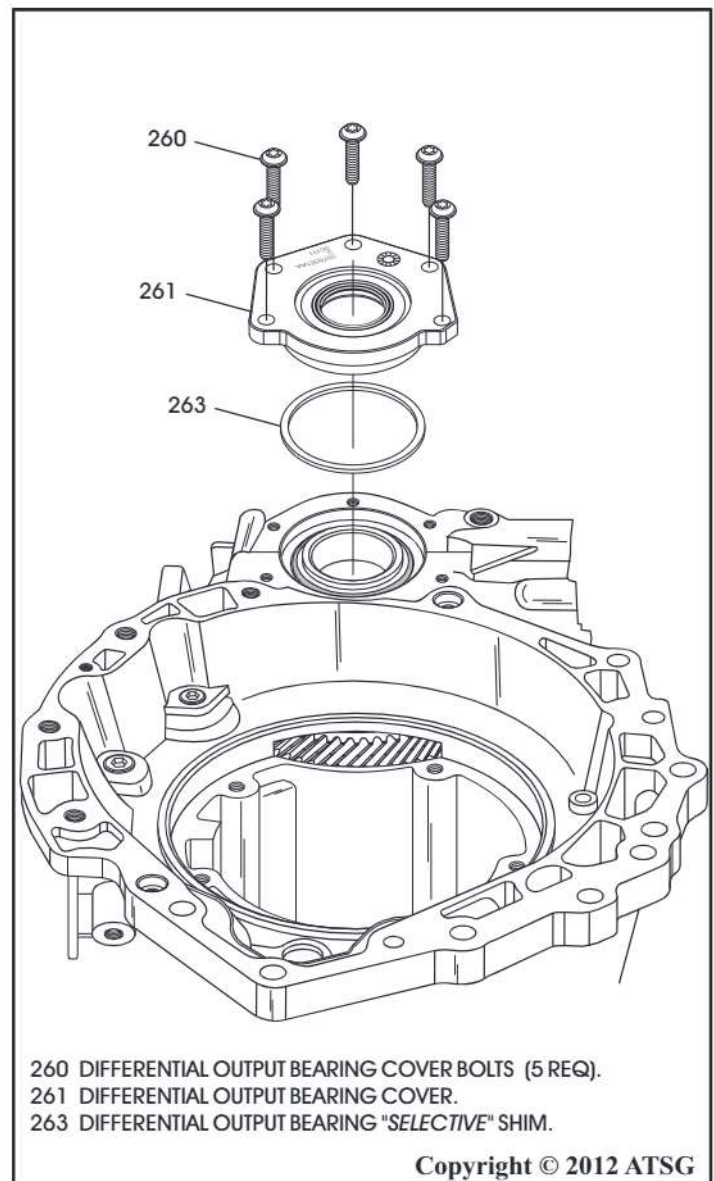

Figure 88
87. Remove the 5 differential output bearing cover bolts, as shown in Figure 88, using a T45 Torx bit.
88. Remove the differential output bearing cover, as shown in Figure 88.
89. Remove the differential output bearing selective shim, as shown in Figure 88.